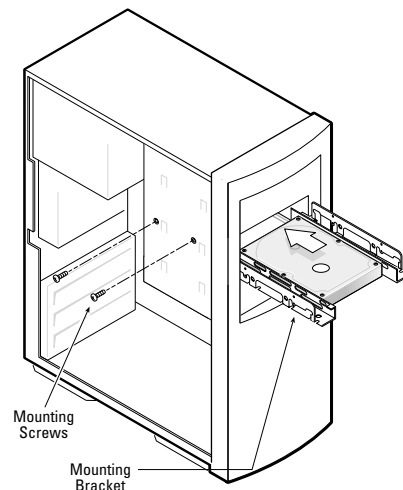

Figure 9. Typical 5.25-inch Device Bay Installation with Mounting Brackets
3. **Once you have attached the brackets to the hard drive, mount the hard drive in the 5.25-inch bay using four of the provided screws.** Mount the hard drive as close to the bottom of the device bay as possible with the label facing up. See Figure 9.
-  5.25-inch device bays usually have a plastic cover that can be removed to expose the device bay. Figure 9 shows the a 5.25-inch device bay with the plastic cover removed.